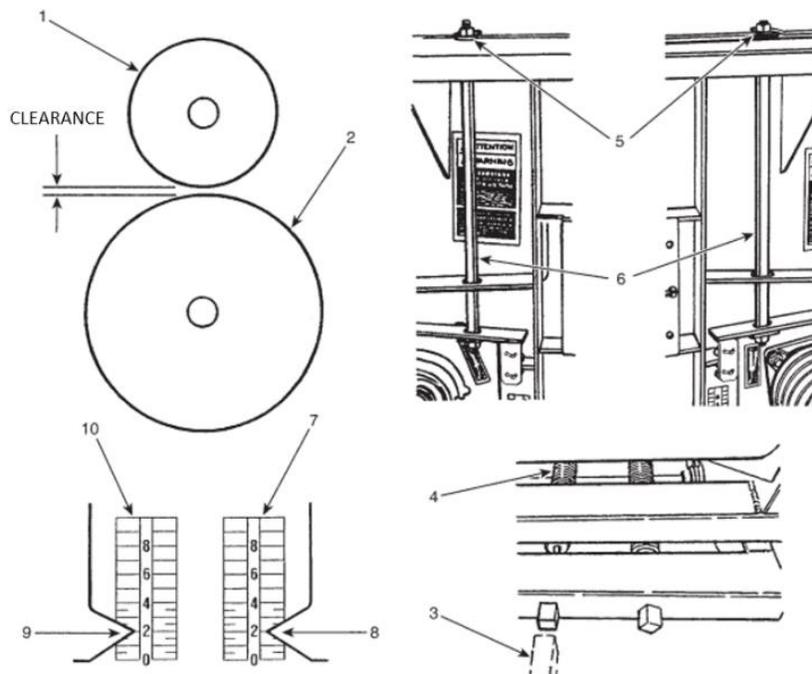

Figure 88 Processor roll clearance and pressure
Refer to FIGURE 88.
The universal joint flanges are equipped with a grease Zerk (item 2, FIGURE 88) to prevent seizing of the shaft to the flange if the shear bolt breaks. When the cutter head shear bolt fails, the feed rolls keep turning and the *FerroDtec* controller will automatically make an emergency stop (for models equipped with the detector).